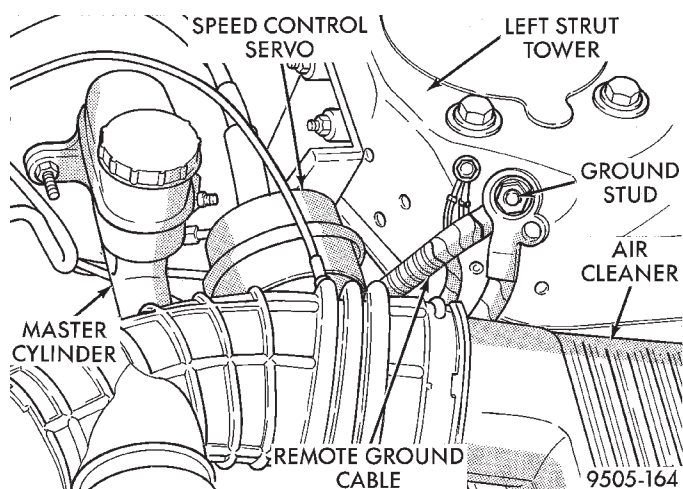

**Fig. 88 Ground Cable Attachment At Strut Tower**
(1) Remove the remote ground cable from the ground stud located on the left strut tower (Fig. 88).